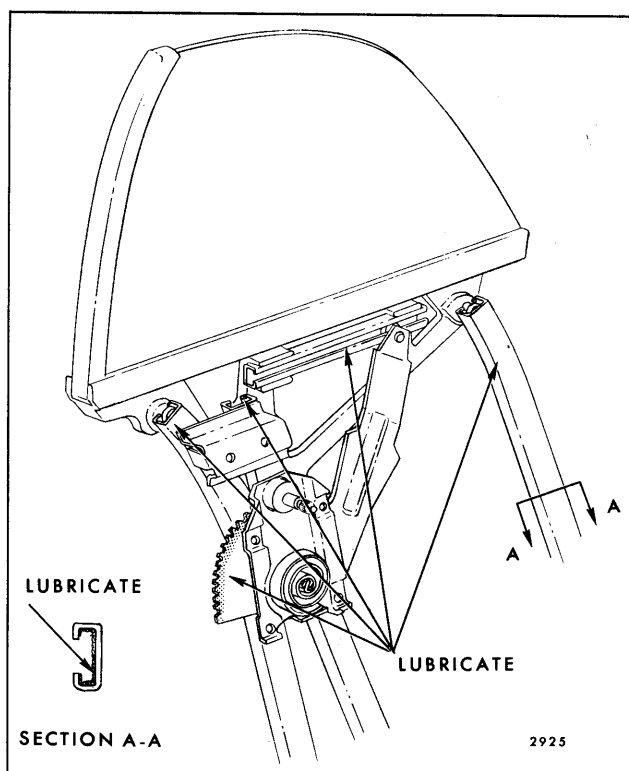

Fig. 2-9—Rear Quarter Window Regulator, Cams, and Guides
1. Apply a thin coat of white lithium soap grease lubricant (Lubriplate 630 AAW or equivalent) to the friction areas indicated (Fig. 2-9).
2. Cover the entire length of the inner surface of all guides with lubricant as shown in the cross section (Fig. 2-9).